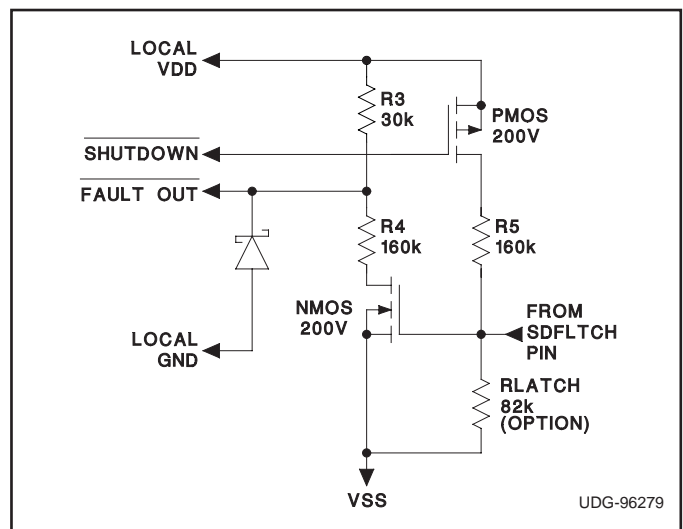

Figure 6. Possible Level Shift Circuitry to Interface to the UCC3921, showing component values selected for a typical telecom application.
Some type of circuit is needed to interface with the UCC3921 via SDFLTCH, such as opto-couplers or level shift circuitry. Figure 6 depicts one implementation of level shift circuitry that could be used, showing component values selected for a typical -48V telecommunication application. There are three communication conditions which could occur; two of which are Hot Swap Power Manager (HSPM) state output indications, and the third being an External Shutdown.
- 1) When open, and under a non-fault condition, SDFLTCH is pulled to a low state. In Figure 6, the N-channel level shift transistor is off, and the FAULT OUT signal is pulled to LOCAL VDD through R3. This indicates that the HSPM is not faulted.
- 2) When a fault is detected by the fault timer or under-voltage lockout, this pin will drive to a high state, indicating that the external power FET is off. In Figure 6, the N-channel level shift transistor will conduct, and the FAULT OUT signal will be pulled to a Schottky Diode voltage drop below LOCAL GND. This indicates that the HSPM is faulted. The Schottky Diode is necessary to ensure that the FAULT OUT signal does not traverse too far below LOCAL GND, making fault detection difficult.